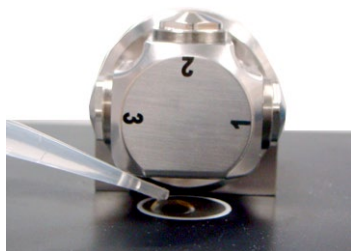

Figure 16. Placing sample on the DialPath accessory sample mounting window.
- 2 Place a small amount of sample material on the bottom sample mounting window (see Figure 16). The sample mounting window is the 2 mm diameter yellow material held in place by the surrounding metal disk.